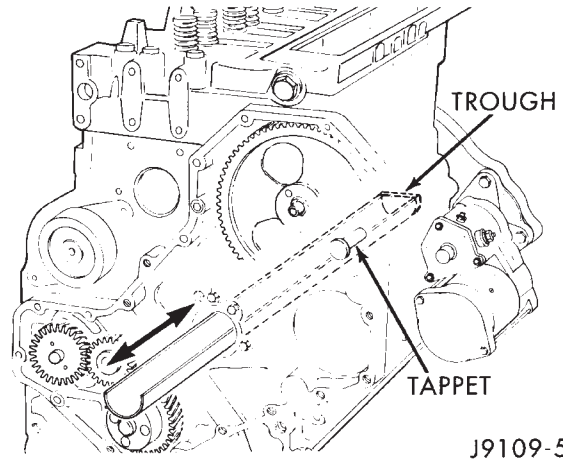

Fig. 72 Tappet Removal using a Trough
- (1) Remove the camshaft.
- (2) Insert a trough the full length of the cam bore (Fig. 72). Cummins Tappet Changing Tool 3822513 is available for this job.
- (3) Make sure the trough is positioned so it will catch the tappet when the wooden dowel is removed.
- (4) Identify the location of each tappet as it is removed. The tappets must be installed in their original locations.
(5) Only remove one tappet at a time. Remove the rubber band from the two companion tappets, securing the tappet not to be removed with the rubber band.
(6) Pull the wooden dowel from the tappet bore allowing the tappet to fall into the trough (Fig. 72).
(7) Normally the tappet will fall over when it drops into the trough. Use a flashlight to determine this. If the tappet does not fall over, shake the trough gently to get it to do so.
(8) Special care should be taken, when removing the No.6 cylinder tappets. DO NOT knock or shake the tappet over the end barrier of the trough.
(9) Carefully pull the trough and tappet from the cam bore and remove the tappet. Repeat the process until all tappets are removed.